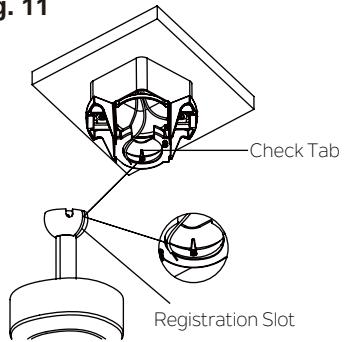

Fig. 12
Step 3. Now lift the motor body into position and place the hanger ball into the hanger bracket. Rotate until the "Check Tab" has dropped into the "Registration Slot" and seats firmly. The entire motor body should not rotate if this is done correctly. (Fig. 12)